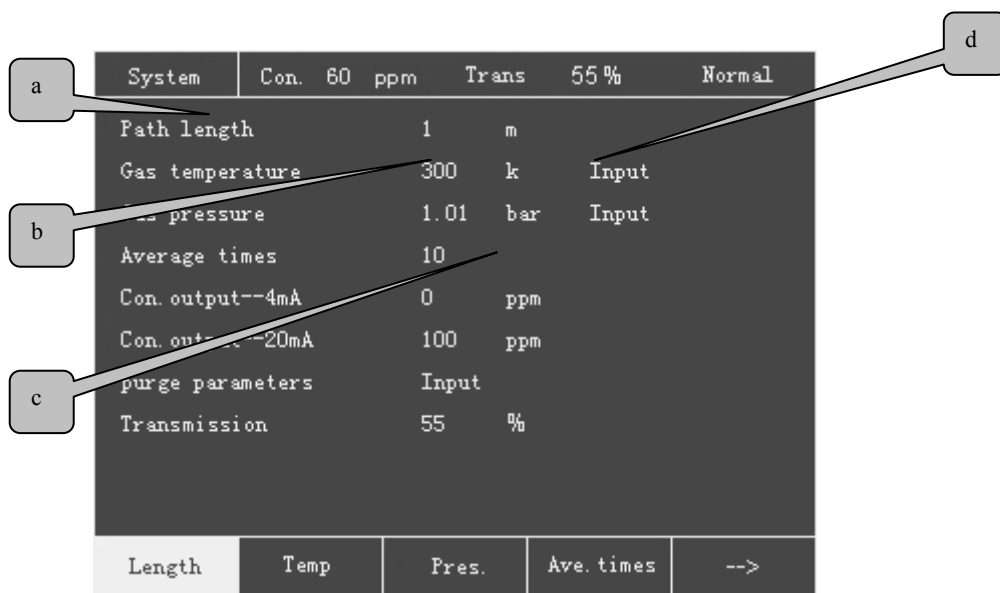

Figure 4.15 System main menu
- Change Sys. Pwd: change the password to **System** menu (Figure 4.15).
The system main menu is shown in Figure 4.15. The data fields for this menu are as follows:
On this menu, the operator can move the cursor to a parameter button, press “SET”, and a pop-up window occurs for the operator to reset it (Figure 4.15). The items in the column refer to: